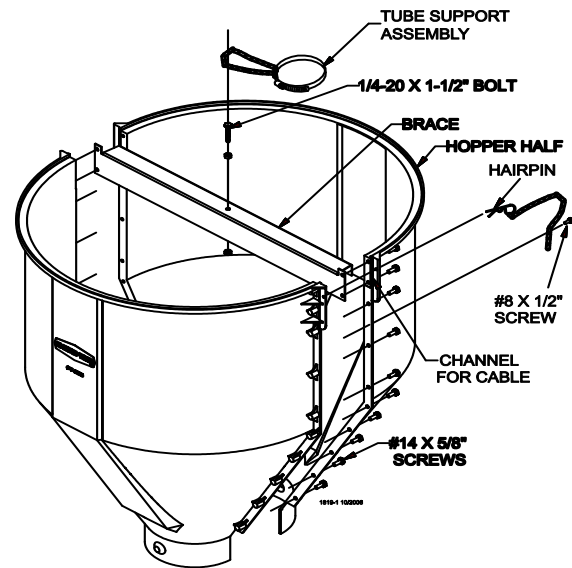

Figure 18.
1. Assemble the 1/4-20 x 1-1/2" bolt to the brace with two 1/4-20 nuts. One nut should be assembled under the brace with the other on top. This bolt is to provide a place for the tube support assembly chain to be hooked, see **figure 18**.
2. Assemble the 150 lb. hopper halves and brace as shown in **Figure 18**, using #14 x 5/8" screws (supplied in hardware package).
3. Assemble the #8 x 1/2" screws and chain as shown in **Figure 18**.